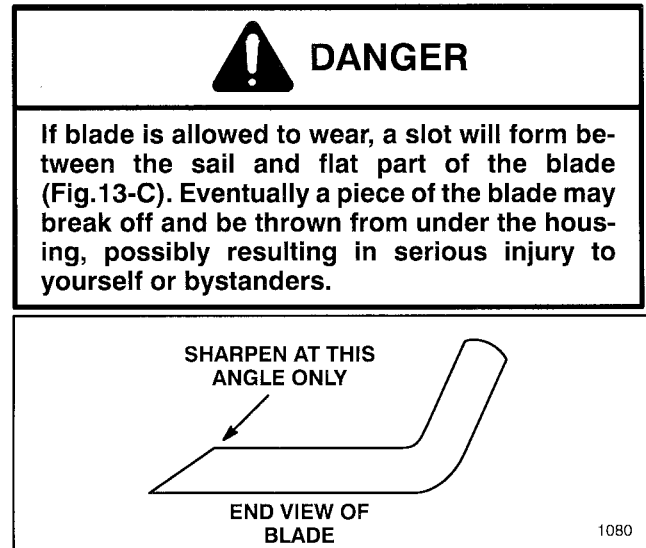

Figure 14
2. Examine cutting edges of all blade(s). Sharpen the cutting edges if they are dull or nicked. Sharpen only the top of the cutting edge and maintain the original cutting angle to make sure of sharpness (Fig. 14). The blade will remain balanced if same amount of metal is removed from both cutting edges.